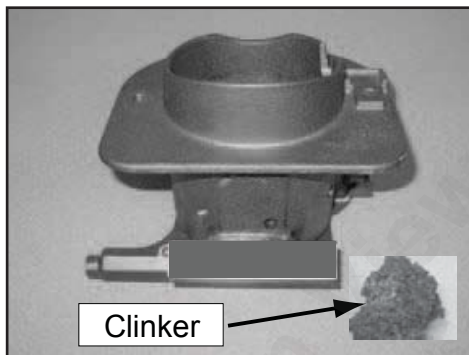

Figure 37.1 - Large Clinker
- b. Vacuum the ash from the heat exchanger with an upholstery brush to remove the majority of the ash. Be sure to vacuum the back of the baffle also. Inspect the drop tube and remove any residue build-up in the drop tube. **Figure 37.1.**